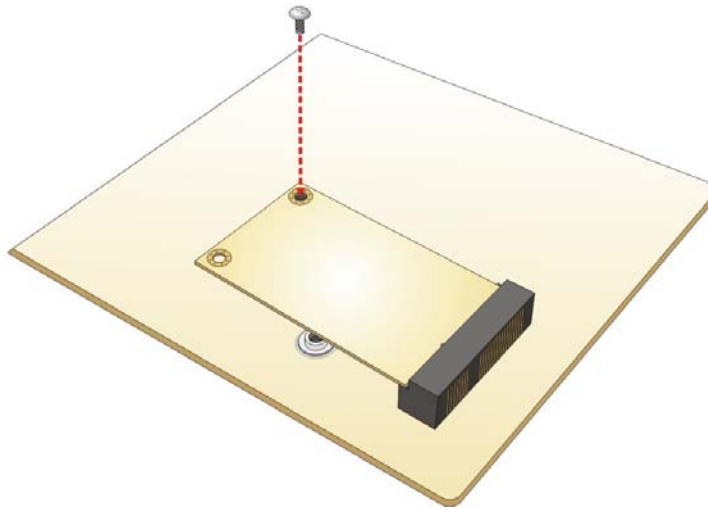

Figure 3-11: Securing the Full-size PCIe Mini Card
Step 6: Secure the full-size PCIe Mini card. Secure the full-size PCIe Mini card with the retention screw previously removed (Figure 3-11).